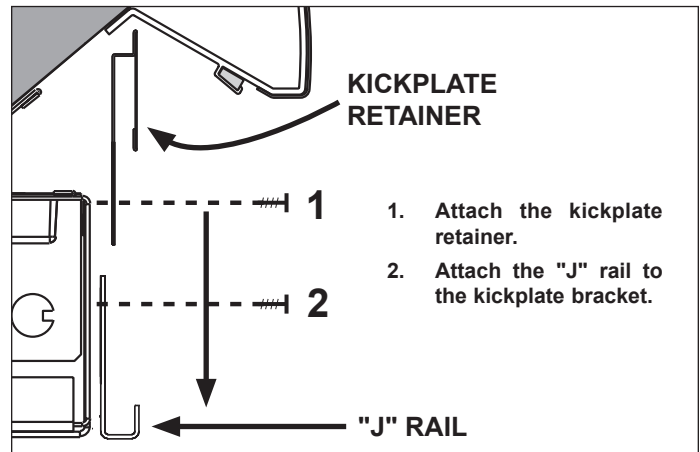

Fig. 9 "J" rail installation
- Using the screws provided, install the upper kickplate retainer and the "J" rail, both of which are shipped loose in the case (Fig. 9). The kickplate brackets are pre-installed at the factory.